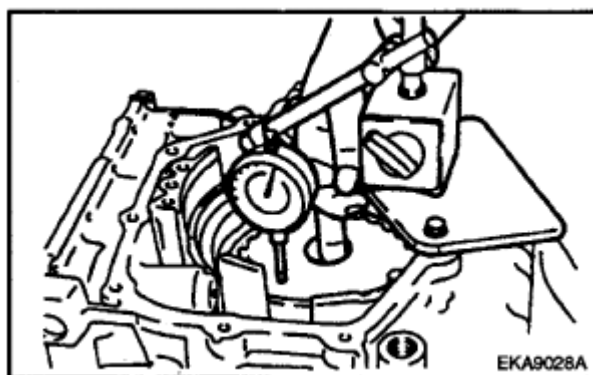

Fig. 80: Determining Proper Thickness Of Second Brake Pressure Plate
13. Install a dial indicator as shown in **Fig. 80**.